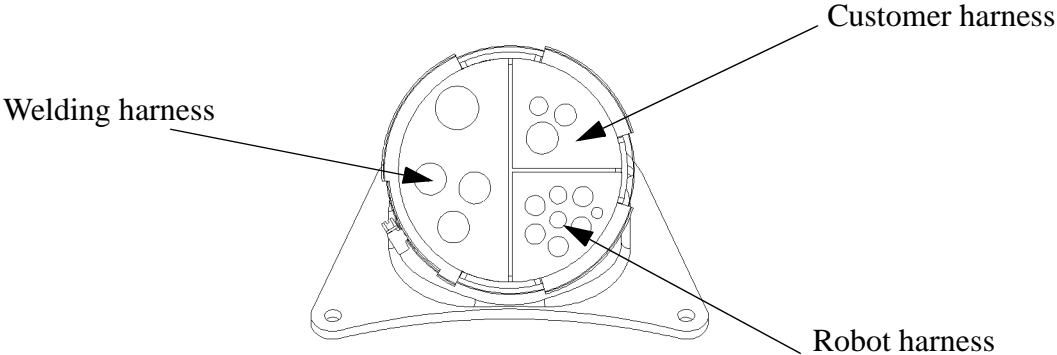

Figure 17 Location of harnesses in holder
9. Pull the harness down through the cover <2:5/10> in the base and position it as shown in the picture (see Figure 17).
10. Fit the hose clamp with the screw in the position shown in the pictures (see Figure 14) and ( Figure 17).
- 17 Position the various harnesses correctly in the cover on the base (see Figure 17).